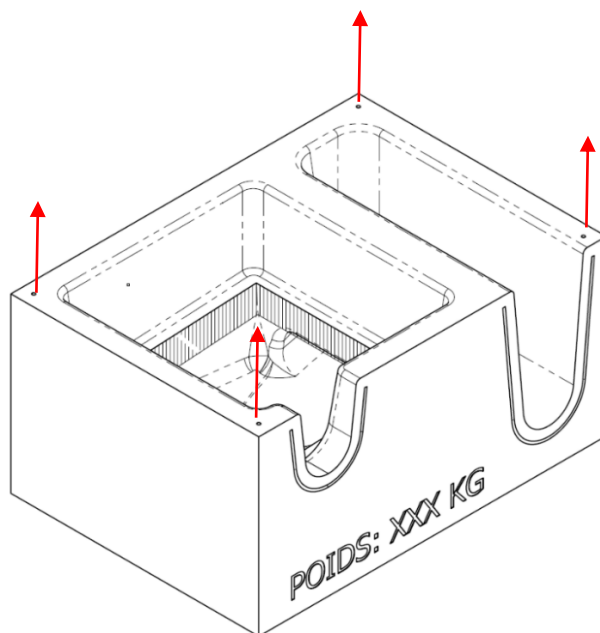

Figure 53 : Refractory bowl lifting points
3. Remove the refractory bowl, the entrance and exit refractory troughs from the filtering box. Use the anchors of the refractory bowl for the lifting (see *Figure 53*). It is possible to break the bowl into pieces to facilitate its extraction.